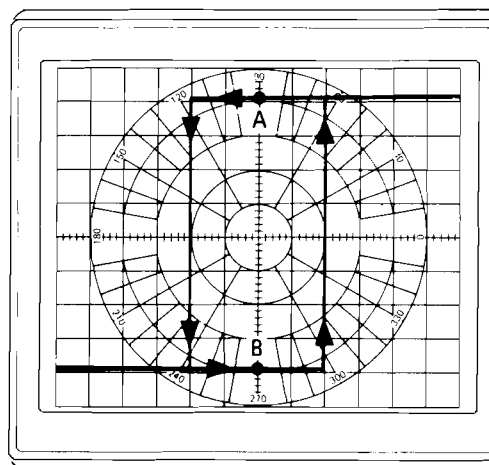

Figure A4-16. Hysteresis Loop of Phase Trace
- d. Set SCAN TIME SEC to MANUAL. Sweep through the transition in both forward and reverse direction using the Manual sweep control. Note the hysteresis loop as shown in Figure A4-16.
- e. Adjust both CW FREQUENCY and $\pm\Delta F$ FREQUENCY to make the hysteresis loop six divisions wide and centered on the vertical center line of CRT. (See Figure A4-16.)
- f. Press Channel 1 DISPLAY MKR. Center trace dot on the vertical center line at point "A" on Figure A4-16 trace. The marker readout should be +180 degrees ± 2 degrees.
- g. Center trace dot on the vertical center line at point "B" on Figure A4-16 trace. The Channel 1 marker readout should be $-180 \text{ degrees} \pm 2 \text{ degrees}$.